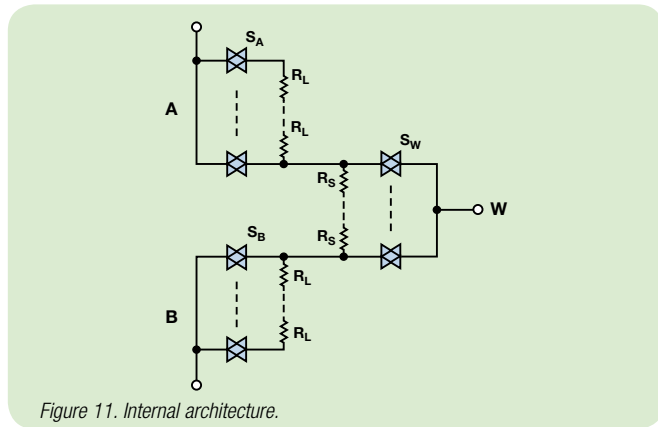

Figure 11. Internal architecture.
**Bandwidth**—the digiPOT architecture is comprised of resistors and switches (see Figure 11). The resistance of the resistors in the path of a particular code, combined with the switch parasitic, pin, and board capacitances, creates an RC low-pass filter, which determines the maximum ac frequency that can be passed through the digiPOT before it is attenuated by more than  $-3$  dB. Choosing a low end-to-end resistor option will support a higher  $-3$  dB bandwidth (see Table 2).